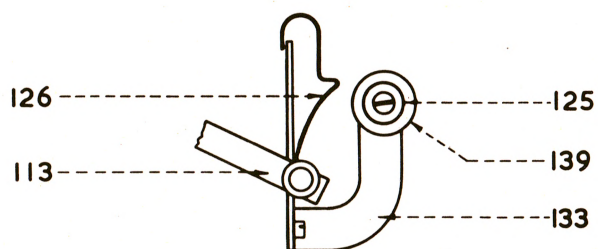

FIG. 14
35. Taut-tape switch, Figs. 14 and 15